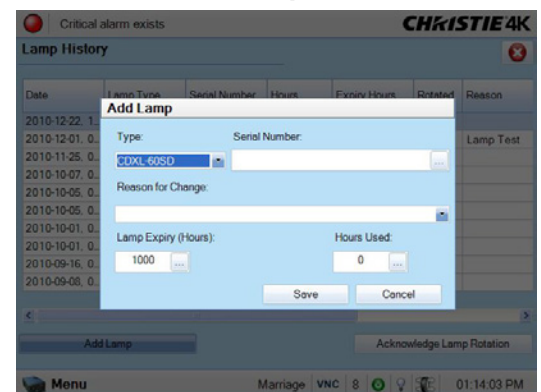

Figure 6-4 Add Lamp Window
18. In the **Advanced Setup: Lamp History** window, click the **Add Lamp** button and record lamp type, serial number, reason for change and number of the hours logged on to the lamp. If the lamp has not been previously used, enter 0. Click **Save** to save the data entered. (**Figure 6-4**)